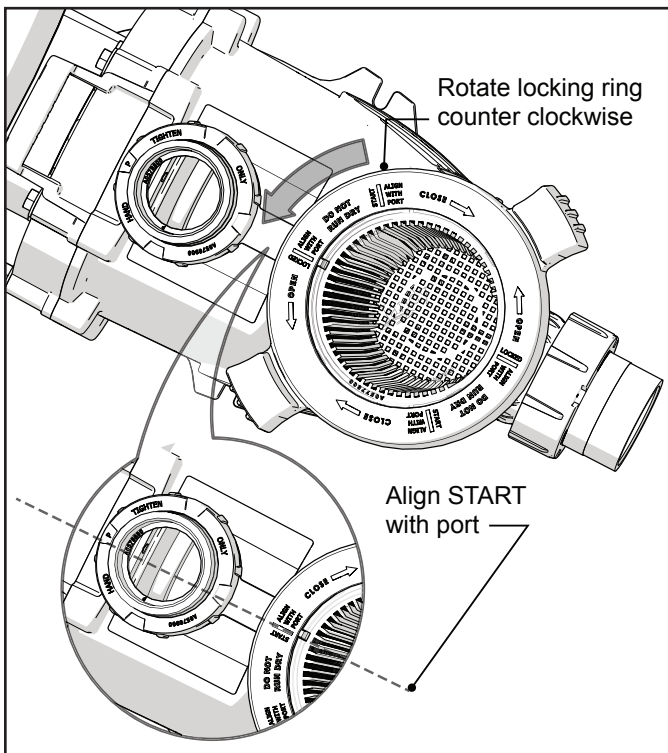

Figure 9. Disengage Lock Ring
4. Turn the locking ring counter-clockwise until the 'START' markings align with the ports. See Figure "Figure 9. Disengage Lock Ring"